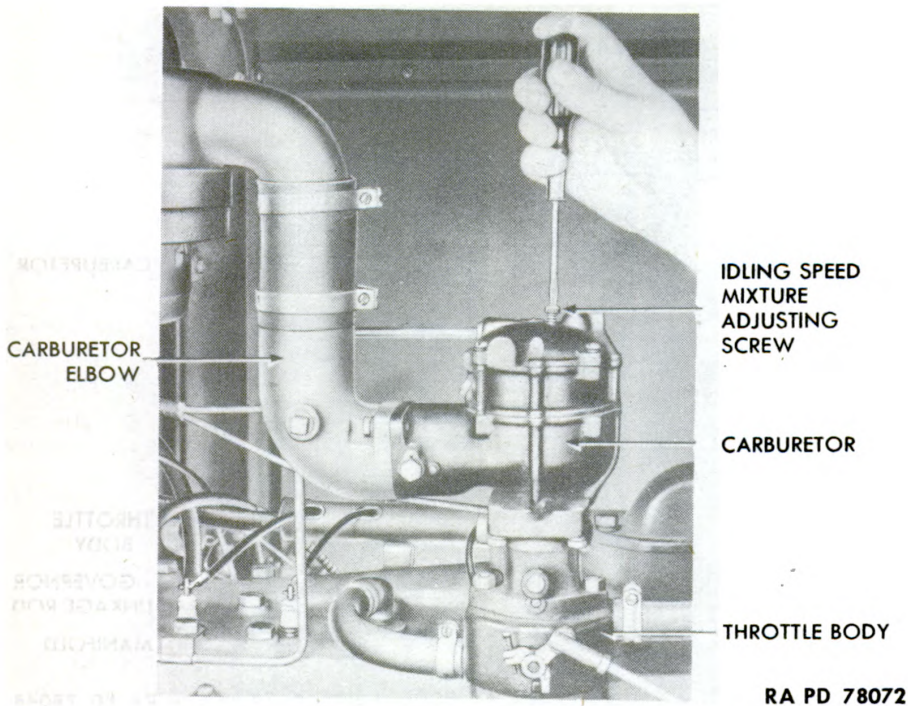

Figure 37 – Carburetor Adjustment
a. Description. The carburetor (fig. 37) is a downdraft type, located over the intake section of the manifold above the throttle body. It is connected by a cast-iron elbow to the air cleaner. The fuel intake is controlled by a float-regulated needle valve that maintains a constant fuel level in the chamber as the suction of the pistons draws the mixture down to the intake manifold. At the top of the carburetor is an adjusting screw which controls the amount of air
(2) **ADJUSTMENT.** When necessary, adjust idling mixture adjusting screw at top of carburetor. Turning clockwise makes richer mixture; counterclockwise, leaner mixture (fig. 37).